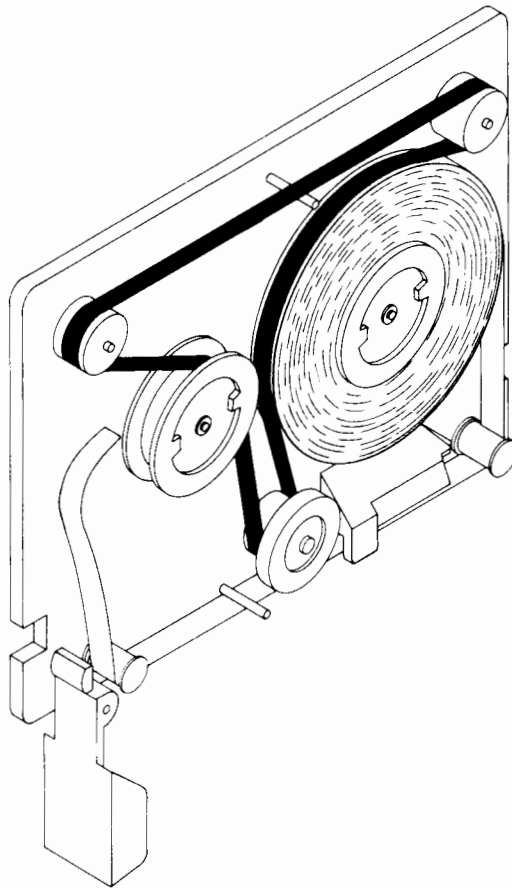

Figure 1-7. Tape Cartridge
It is a good idea to remove a tape cartridge from the computer when the computer is not in use. The tape transport capstan may develop a temporary flat spot if a tape cartridge is left in the computer for a long period. This could cause errors when using the tape. The temporary flat spot can be corrected by running to the end of the tape (fdf 9999) and rewinding again. Figure 1-7 shows the tape in its rewound condition.
4. Thread the tape around the tape guides as shown in Figure 1-7.